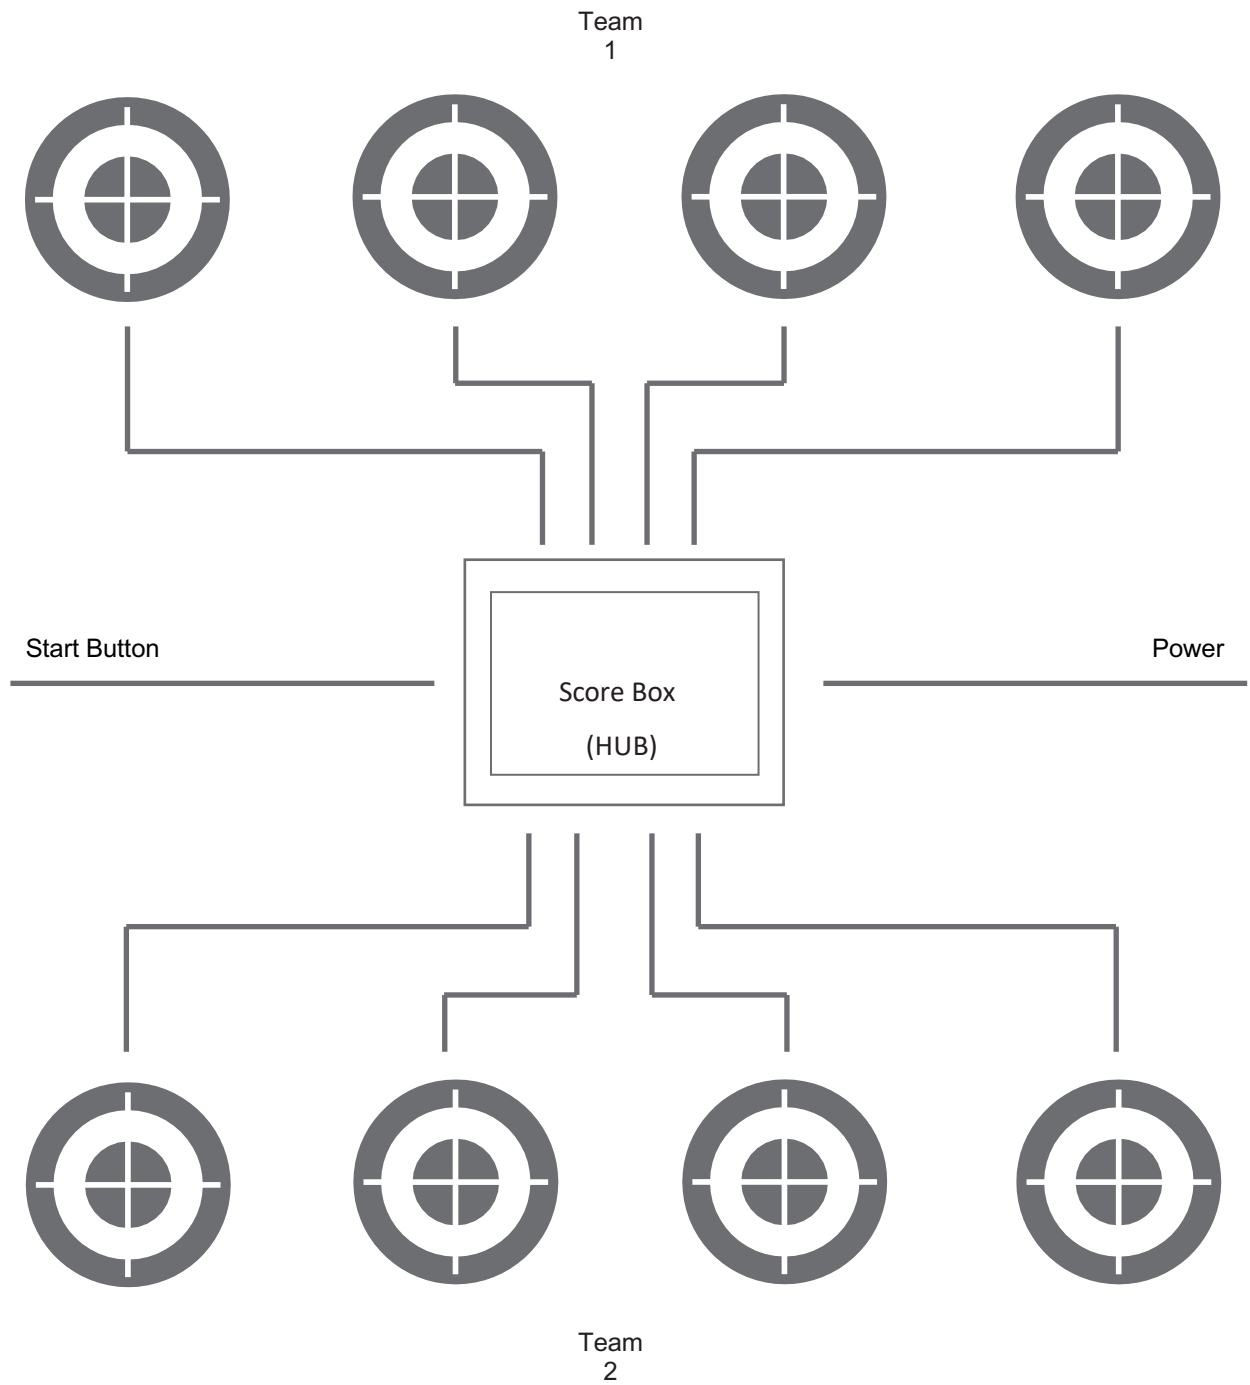

Figure 3.4.3: Typical DodgeAttack Cable Connections
- Cables come out the back of each unit. Cables need to be installed as shown in **Figure 3.4.3**